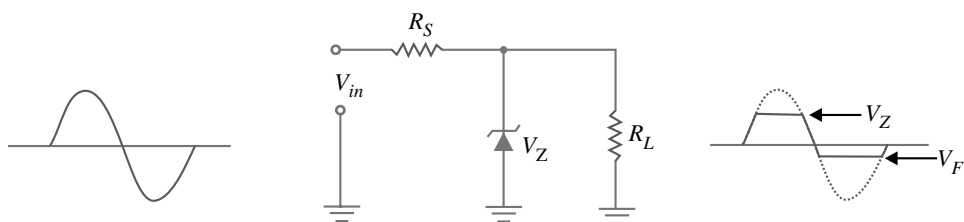

Fig. 16.49
**Example 16.21.** Fig. 16.49 shows a zener shunt clipper with sine wave input. Determine the output waveform.
When the input signal in Fig. 16.49 goes positive, the zener is reverse biased. Therefore, the zener diode will remain OFF until the value of  $V_{in}$  reaches the value of  $V_Z$ . At that time, the zener diode will turn ON, clipping the input signal. As long as  $V_{in}$  is greater than  $V_Z$ , the zener will remain ON and the output voltage is